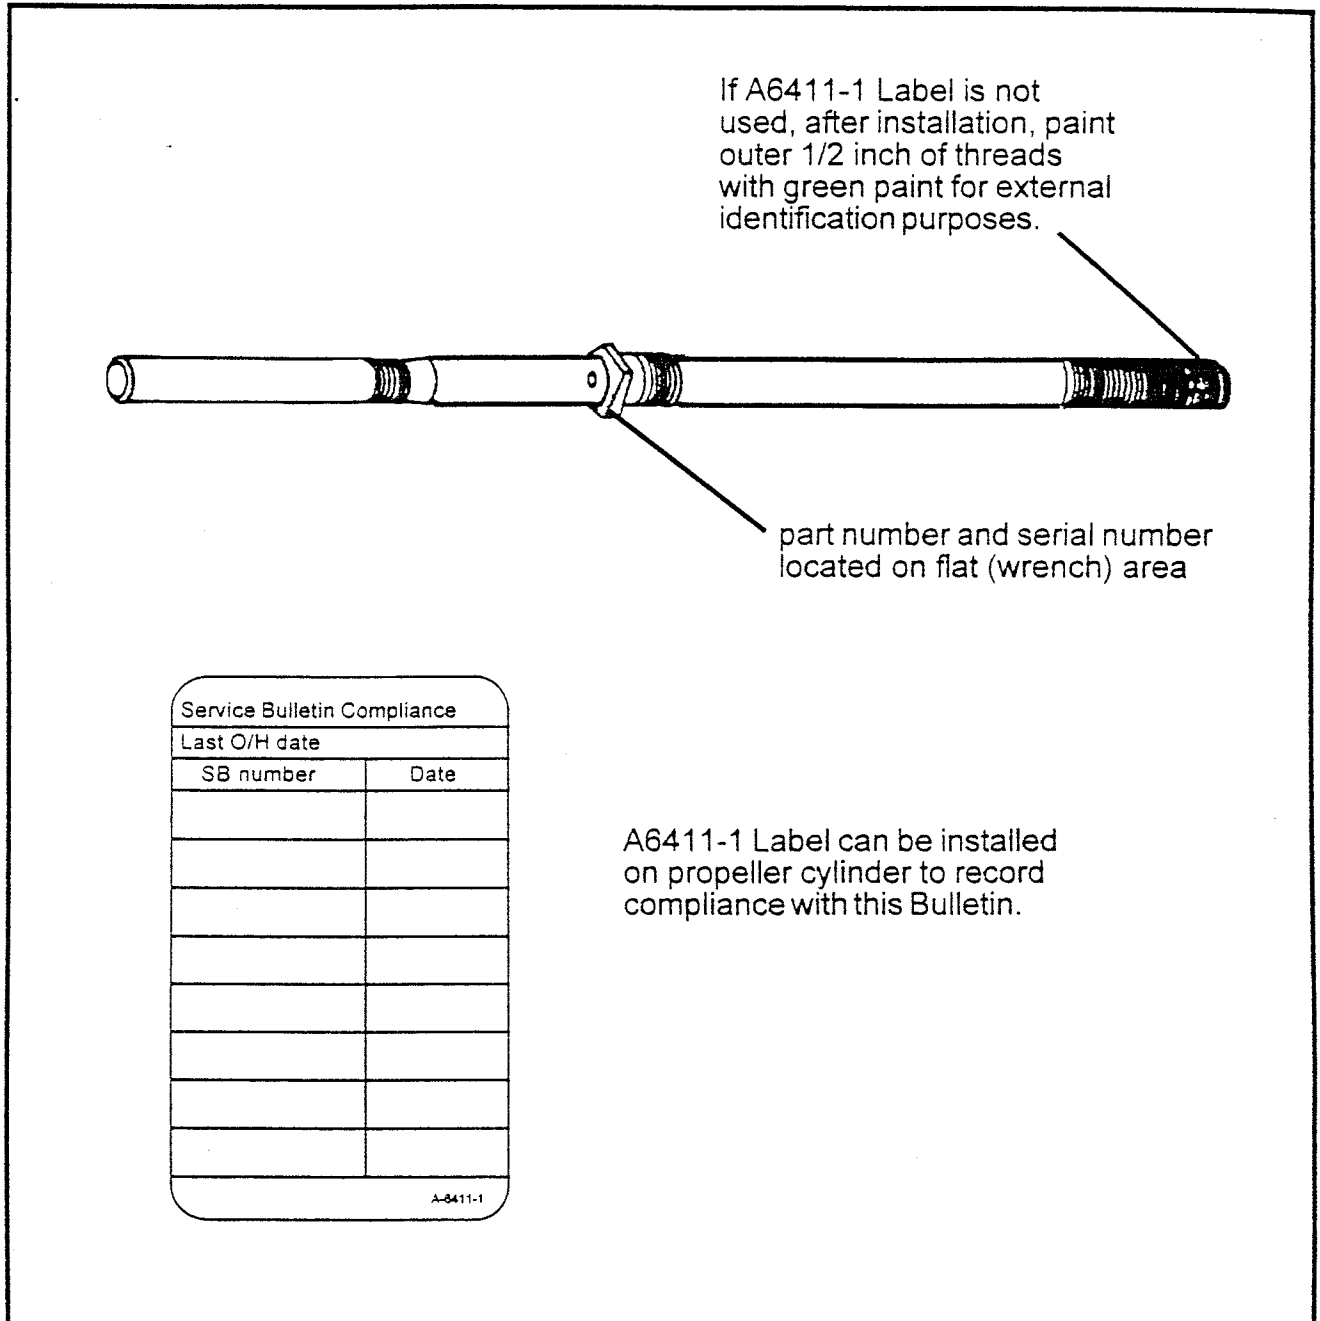

Figure 1. Pitch Change Rod Identification and Bulletin Compliance
Identification - Pitch Change Rods are identifiable by the part number which is located on the flat portion of the rod where a wrench is used to hold the rod during installation, see Figure 1. The D494 Rod is identical to the D6071 Rod except that D494 Rods have close tolerance requirements internally for Beta tube installation. The dash -1 versions of these rods have different material and manufacturing processes. These differences cannot be easily identified visually, part number identification is the only suitable means of identification.
- (1) Make an entry in the propeller logbook indicating compliance with this Service Bulletin.
- (2) An exterior identification on the propeller is required. Two methods are approved for repair stations to provide identification, see Figure 1:
- (3) New propellers from Hartzell have no external identification except by serial number. The propeller serial numbers listed below show the beginning serial number of propellers manufactured by Hartzell with dash -1 pitch change rods: